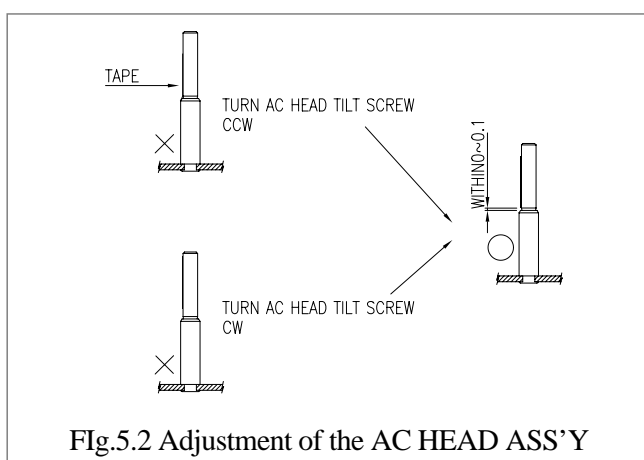

Fig.5.2 Adjustment of the AC HEAD ASS'Y
- If there is any problem, Turn the AC HEAD TILT SCREW until the running status improved (Fig. 5.2)
- If the requirement of “c” is not satisfied, readjust the AC HEAD TILT and the HEIGHT until the AUDIO output is maximized. (Fig. 5.2, 5.3)